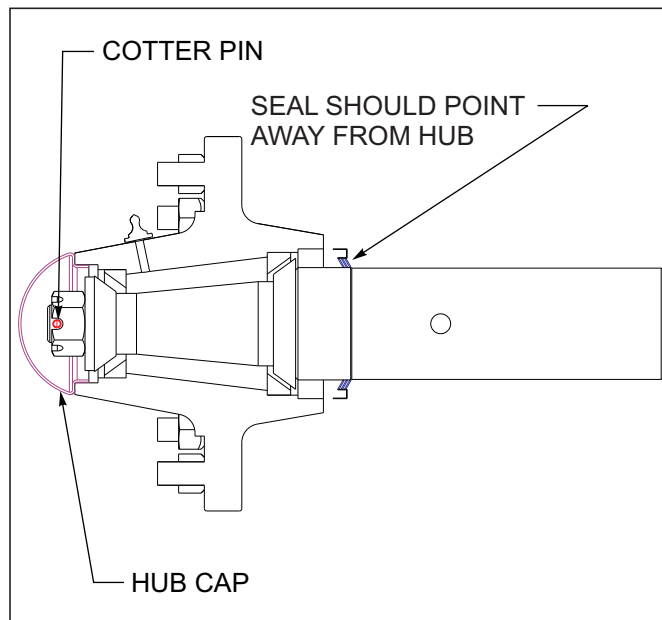

Figure 4-21: Triple Lip Seal
The triple-lip seals should point away from the hub to keep contaminants out and allow grease to pass See Figure 4-21.
12. Install a new cotter pin and replace the hub cap. (See Figure 4-21)
13. The tire & wheel assemblies may be installed back on the hub (6), secure with the 5/8-18 lug nuts. Tighten all 5/8-18 lug nuts (1).